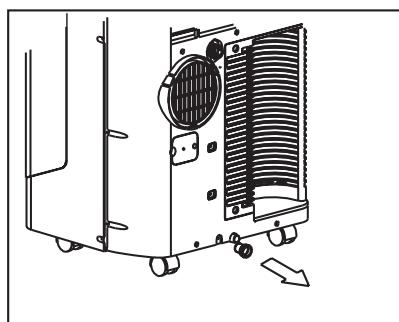

Fig. 25
Carefully move the unit to a drain location, remove the bottom drain plug and let the water drain away (Fig.25). Restart the machine until the "P1" symbol disappears. If the error repeats, call for service.
- Remove the plug from the bottom drain outlet, all the water in the bottom tray would drain out (See Fig.25).